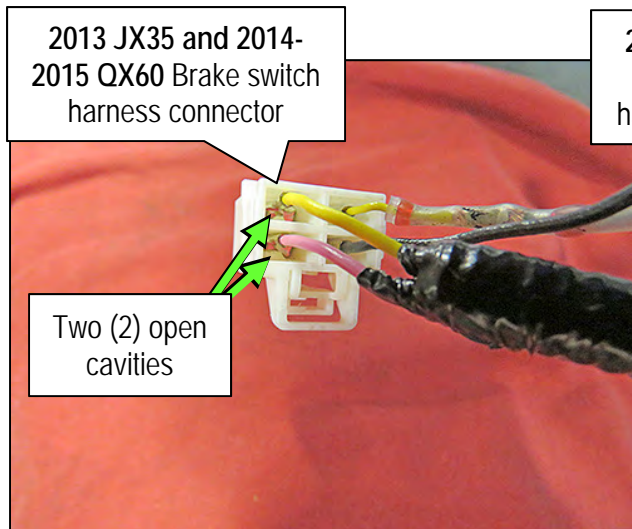

Figure 50
- For 2013 JX35 and 2014-2015 QX60: Insert the pink and yellow jumper wire connectors into the open cavities of the harness side of the brake switch harness connector as shown in Figure 50.